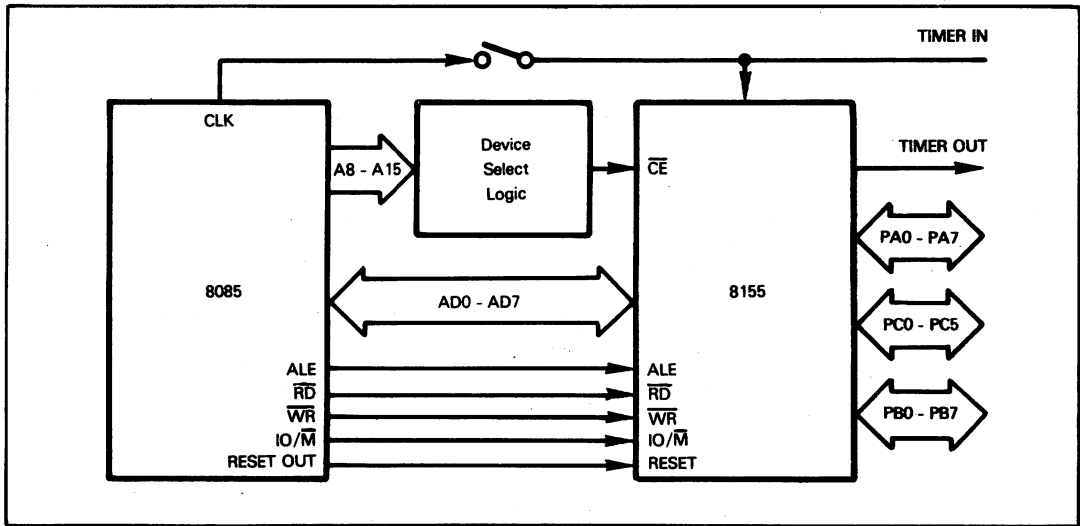

Figure 5-22: An 8155 Device Connected to an 8085A CPU Bus
**AD0 - AD7 connect to a bidirectional, multiplexed Data and Address Bus.** As illustrated in Figure 5-22, these pins connect to the AD0 - AD7 bus lines output by the 8085A microprocessor.